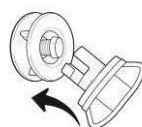

Figure 5
- Replace the valve cap to create an air tight seal (figure 5 & 6)